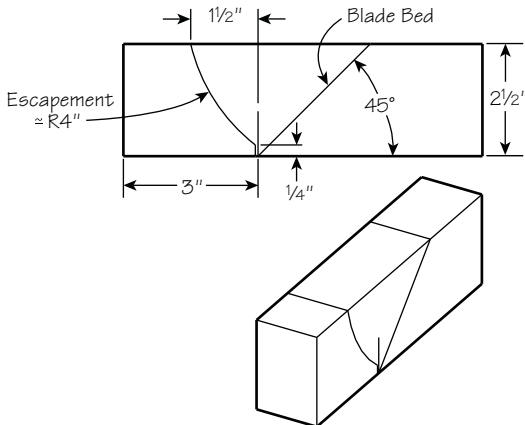

Figure 3: Side view of inner body layout.
3. Lay out the inner body as shown in **Figure 3**. Use a pencil to mark the mouth location 3" in from one end of the bottom of the inner body. Carry the line part-way up the side using a square. Lay out the blade bed location at 45° from the 3" mark, then scribe the 4" radius (approximately) for the escapement using a compass. Cut along the lines.